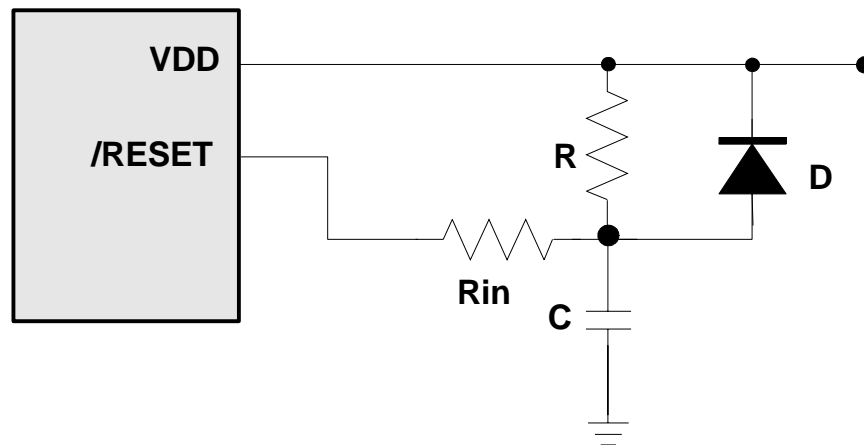

Figure 6-12 External Power-on Reset Circuit
The circuit shown in Figure 6-12 implements an external RC to produce a reset pulse. The pulse width (time constant) should be kept long enough to allow VDD to reach minimum operation voltage. This circuit is used when the power supply has a slow rise time. Because the current leakage from the /RESET pin is about  $\pm 5\mu\text{A}$ , it is recommended that R should not be greater than 40K. In this way, the voltage at Pin /RESET is held below 0.2V. The diode (D) acts as a short circuit at power-down. The capacitor, C, is discharged rapidly and fully. Rin, the current-limited resistor, prevents high current discharge or ESD (electrostatic discharge) from flowing into Pin /RESET.